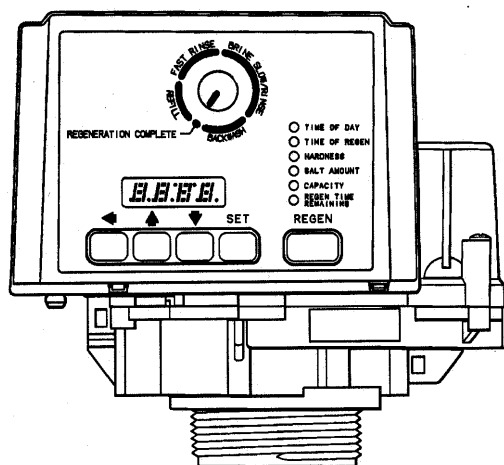

Figure 1 - Control
- Connect the control to the wall transformer cable. The power connection is located on the underside of the control on the left side (refer to Figure 1). Insert the barrel style connector into the power plug.